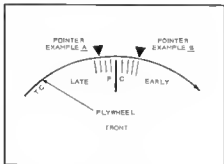

FIGURE 3-41. TIMING MARKS
**Example A.** The port closing time is late by 0.3-inch (7.6 mm) measurement, Figure 3-41.